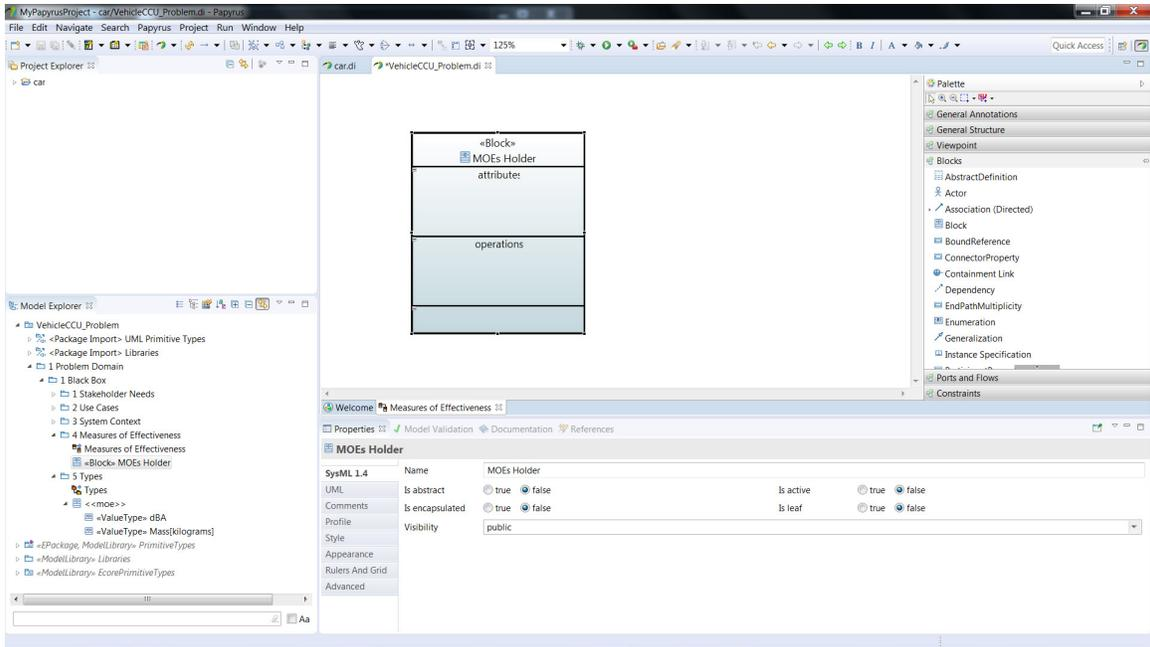

Figure 80: *MOEs Holder* Block.
- Now we will create a block to hold our MOE's. Using the **Blocks** tool palette on the right, click on **Block** and then click anywhere inside the *Measures of Effectiveness* block definition diagram in the main window to create the new block. Name this block *MOEs Holder* (figure 80).